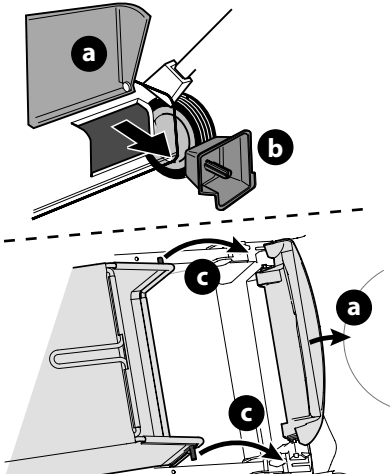

Figure 13
2. Follow steps below to attach grass catcher (Figure 13):